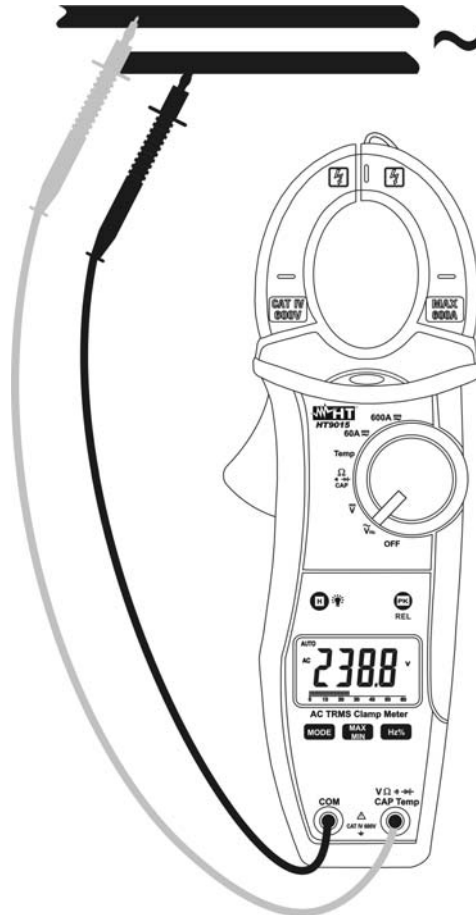

Fig. 3: Taking AC voltage measurements
3. Insert the red test lead plug into **VΩ/Hz/CAP/Temp** jack and the black test lead plug into **COM** jack (Fig. 3)